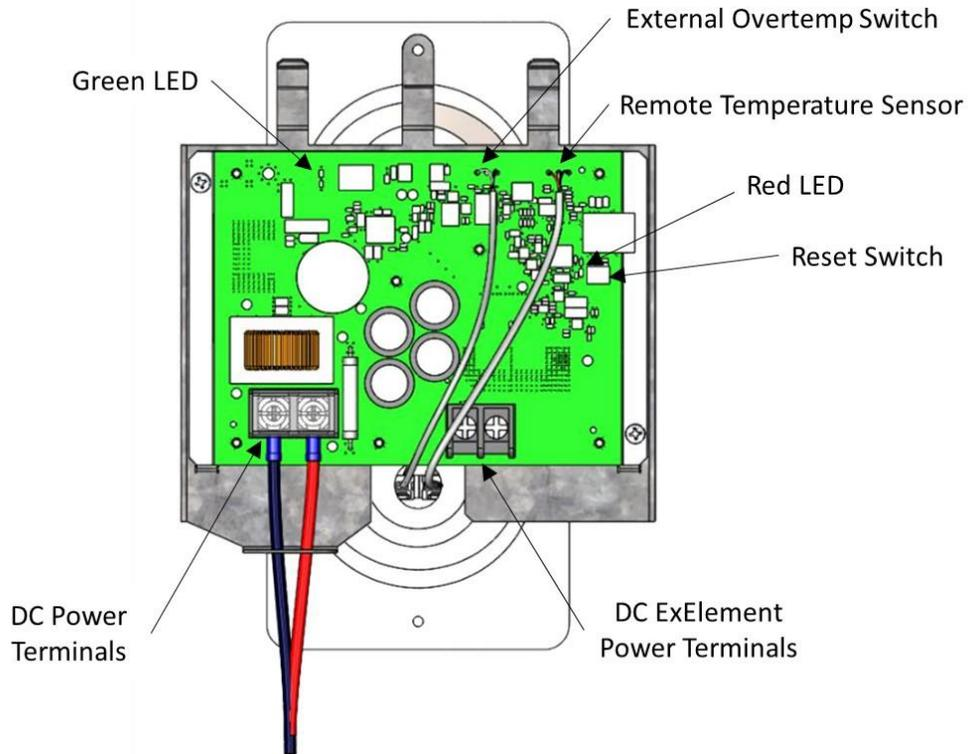

Figure 7. Control device layout (Version 1.x).
- Green LED light on control board device should illuminate indicating control device has power. (Figure 7)